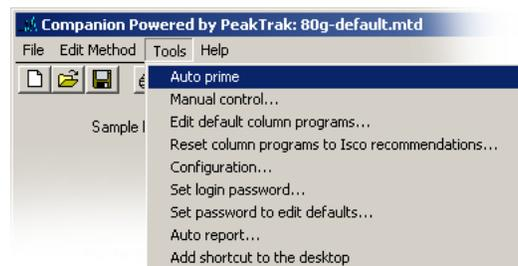

Figure 3: Tools>Autoprime menu command
- b. Select the Tools>Autoprime command from the PeakTrak menu (Figure 3).